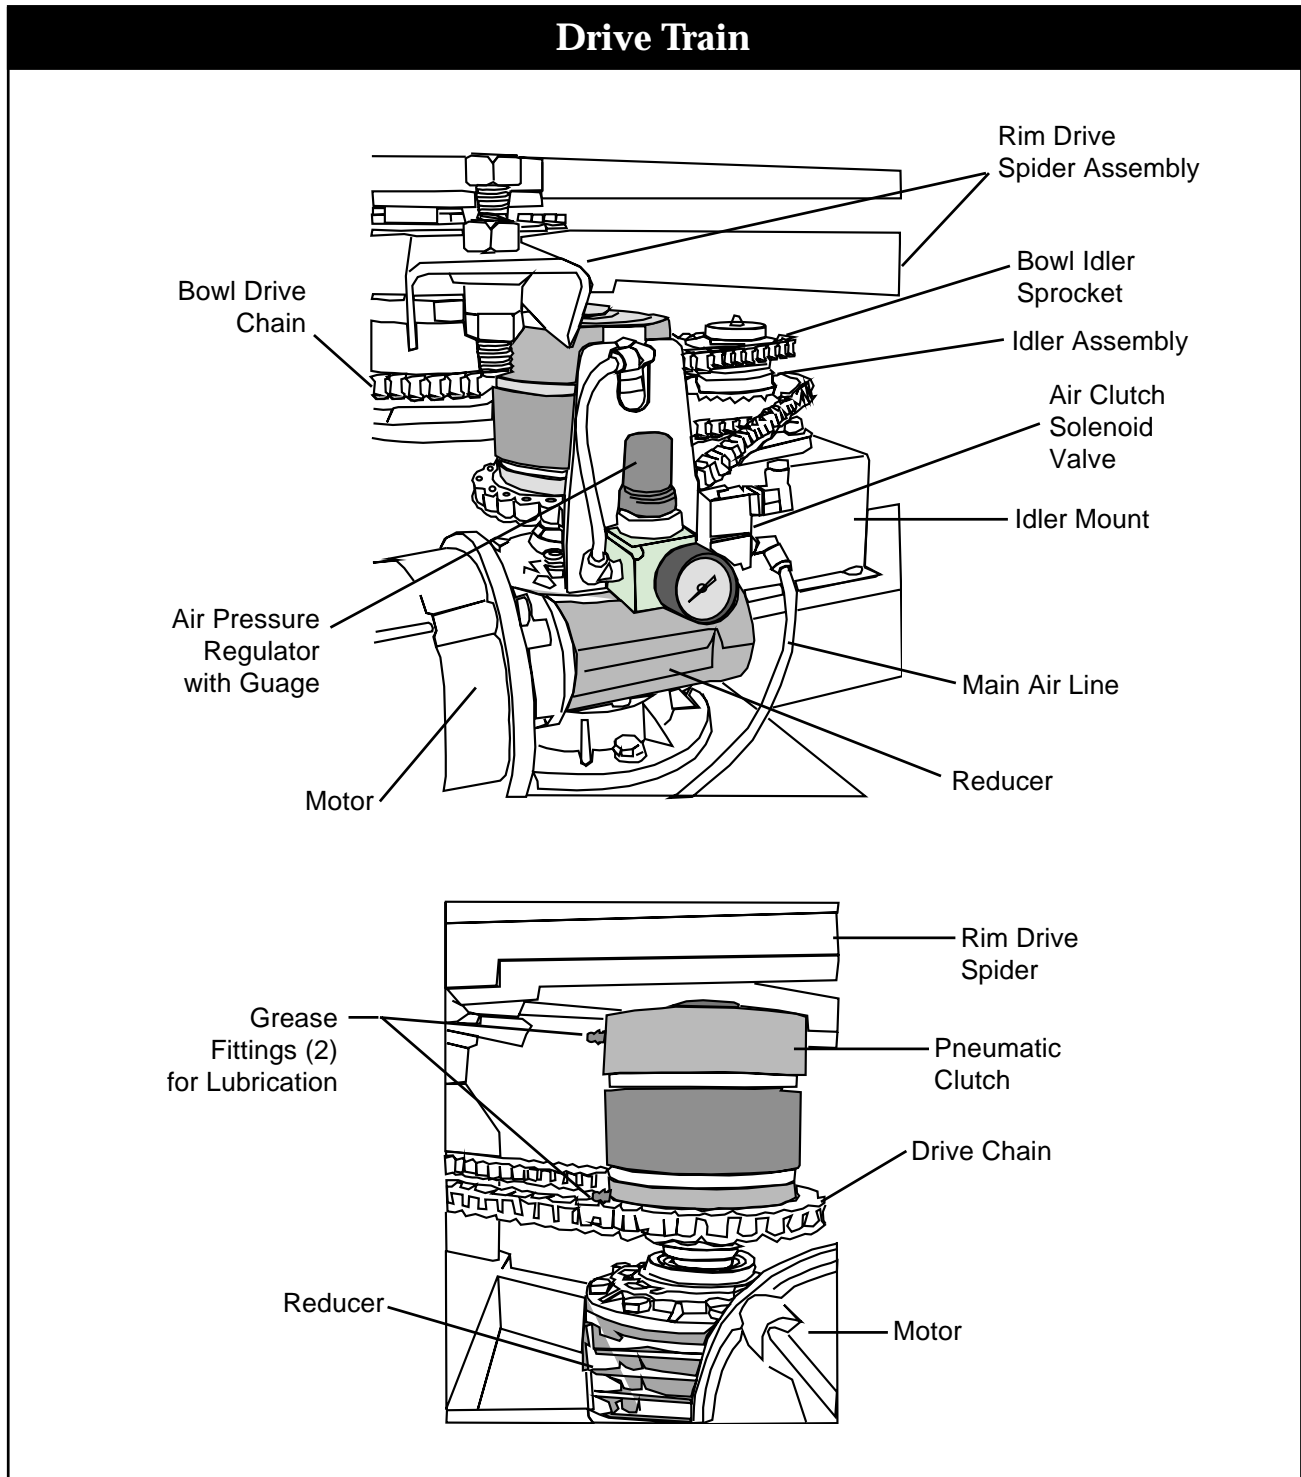

Figure 4-3. FS-40/50-RD Drive Train
Lubrication will be required after every four (4) weeks of operation. Use a lubricant such as Andersol 786 or equivalent. Two grease fittings are provided for this purpose (see Figure 4-3). After long periods of operation, it may be necessary to disassemble the clutch for cleaning and inspection.